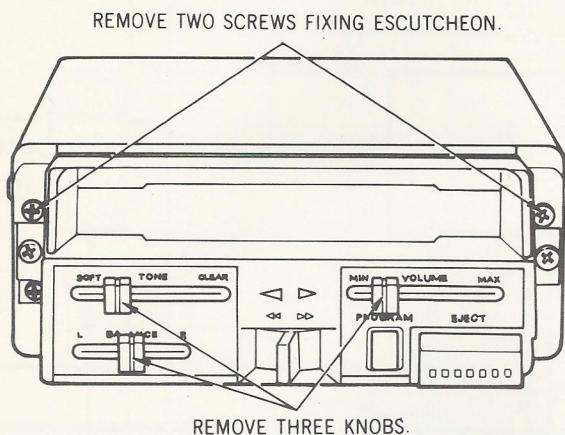

Fig. 4
1. Removal of escutcheon (See Fig. 4)